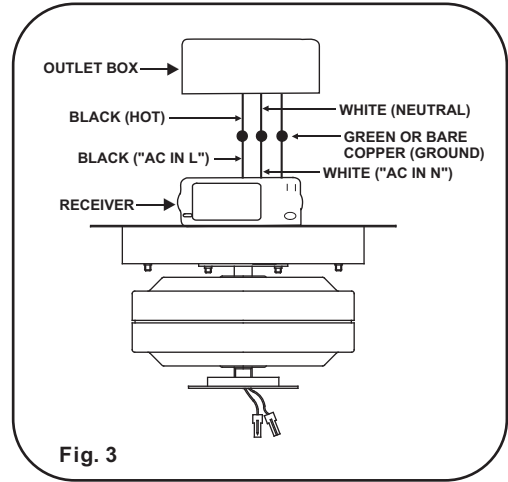

Fig. 3
Step 1 Connect the fan supply (black) wire to the black household supply wire as shown in Figure 3 & 4.